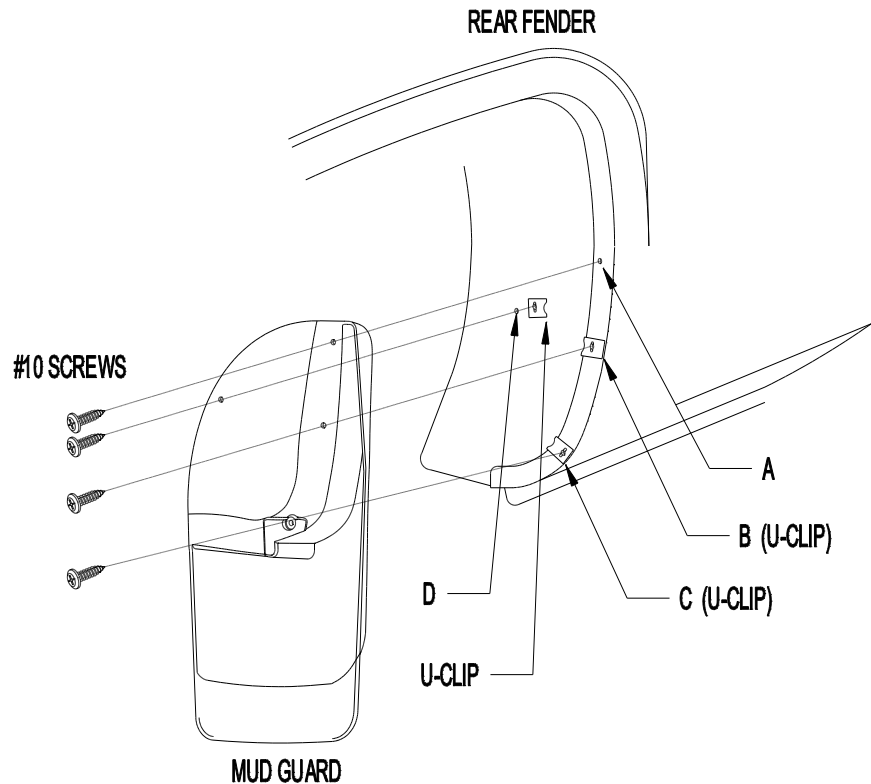

Figure 1
2. Install a U-clip at location B and C (Figures 1 & 3).